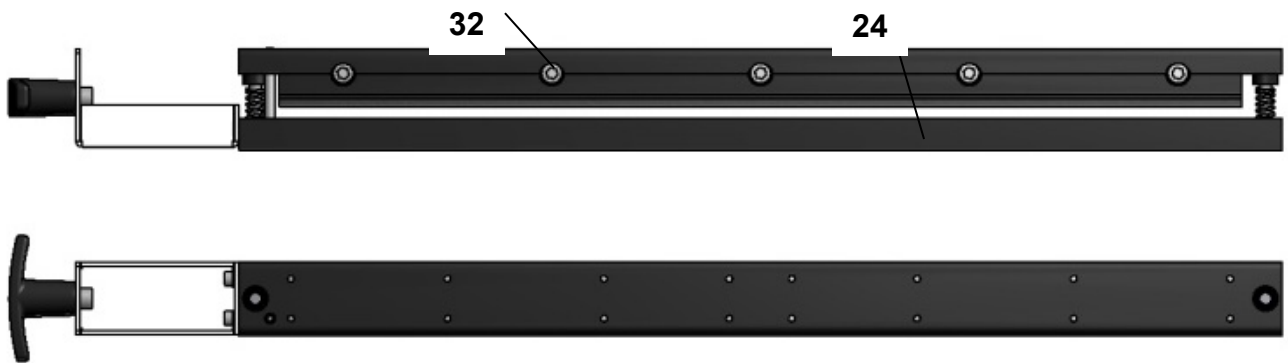
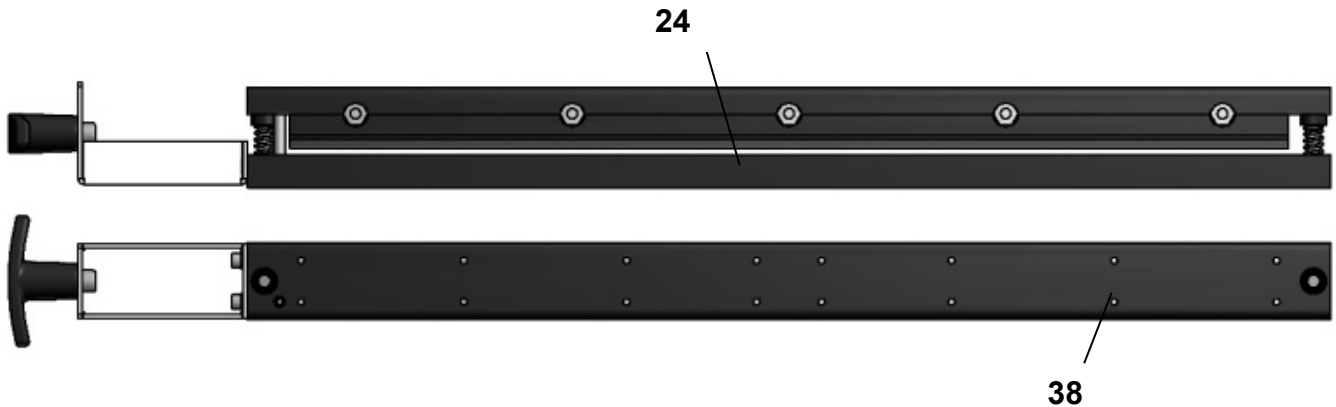

Fig. 3: Creasing tool CITO 0.04" (571 40 467) – standard equipment. Creasing tool CITO 0.05" (571 40 468) as optional accessory.
Fig. 4: Creasing tool – iron channel for higher grammage (570 40 466)
- 32 – Creasing tool screw M6x14 (fig. 3)
- 38 – Tool screw M4x5 (fig. 4)
By pressing “>>>” icon in Setting screen we enter to screen where most common types of fold are displayed (fig. 4). To achieve most common folds it is necessary to crease in certain distances like $\frac{1}{2}$, $\frac{1}{3}$ or $\frac{1}{4}$ of the paper. By pressing appropriate icon we can easily achieve one of the most-used folds. First, it is necessary to prepare the required sheet the same way as for the processing. Then press the “ $\frac{1}{2}$ ” icon (other fold types accordingly), followed by “Return” and “Start” icons. One sheet goes through the machine, its length is measured and $\frac{1}{2}$ of the length is calculated. The screen changes to the Setting screen (fig. 3). The calculated length of the $\frac{1}{2}$ is displayed in the “length” box. Then return to the main screen and press the “Start” icon. We recommend to process only one sheet and check the position of the $\frac{1}{2}$, whether the distance was measured correctly. If the crease is not in precisely in the required distance, return to the Setting screen and correct the distance manually. All other folds work the same way.